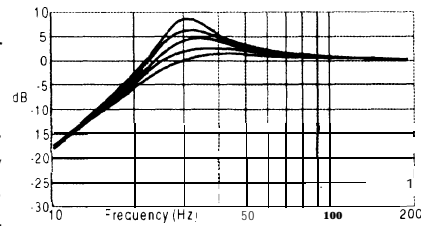

FIG. 2 VARIABLE BOOST
**The Boost control** adjusts the amount of level applied at the set frequency, and is adjustable from 0 to +9 dB (see figure 2). When the boost is set to 0, Hawkins Bass Control acts as a subsonic filter only. The simple act of removing potentially harmful low frequencies can improve system output by as much as 3 dB.